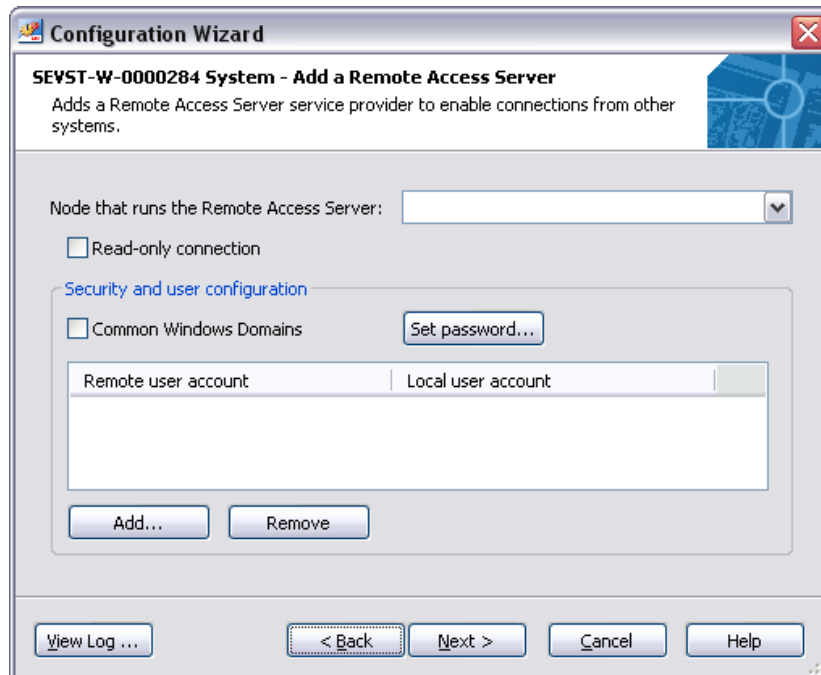

Figure 11. Add Remote Access Server
The Add a Remote Access Server dialog box is displayed, see Figure 11.
3. Click **Next**, see Figure 11 and then in new screen click **Finish**.